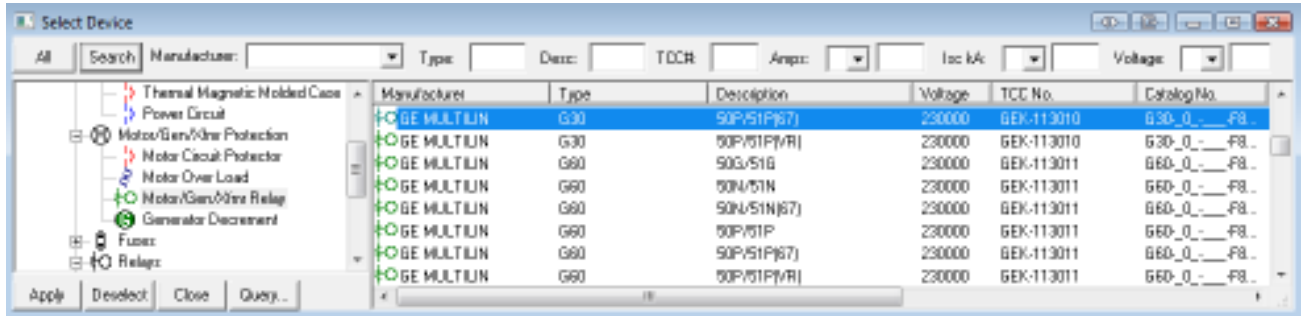

Figure 8
- Once the directional is displayed on top of the Functions button, click the Library button to select a model for this directional function, similar to the device in Figure 8. Click Apply and Close.